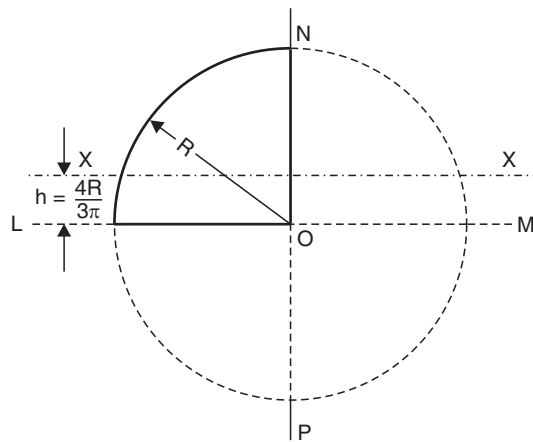

Fig. 5.15
**7. Moment of inertia of a quadrant.** Refer to Fig. 5.15. Let  $LON$  be a quadrant of a circular plate of radius  $R$ .